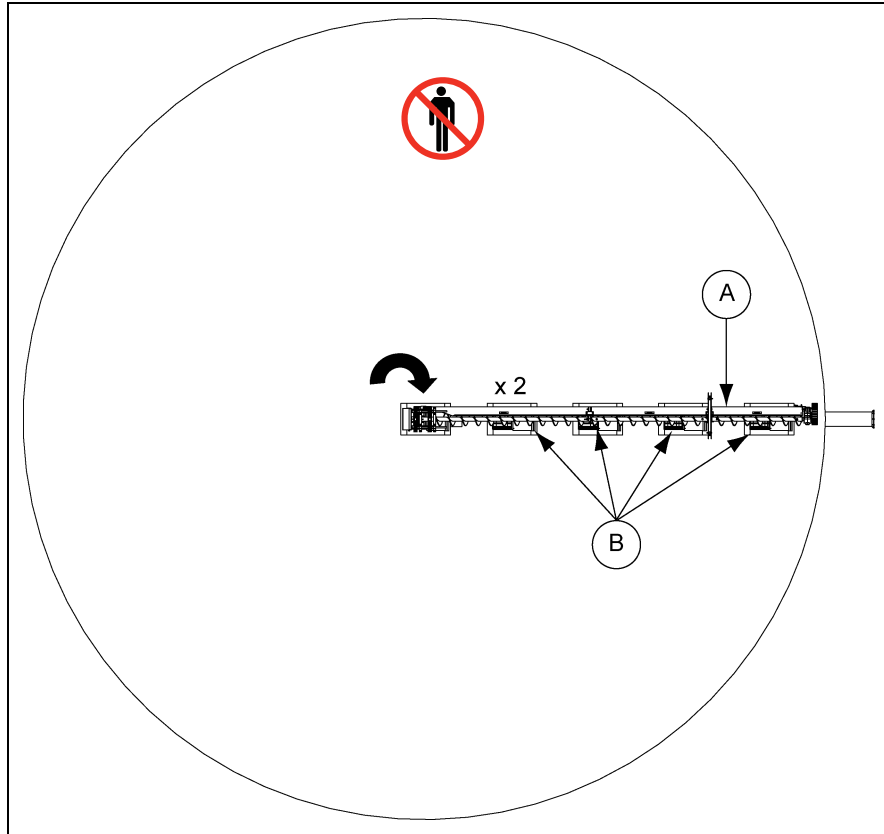

Figure 6K
11. Sweep grain. (See Figure 6K.)